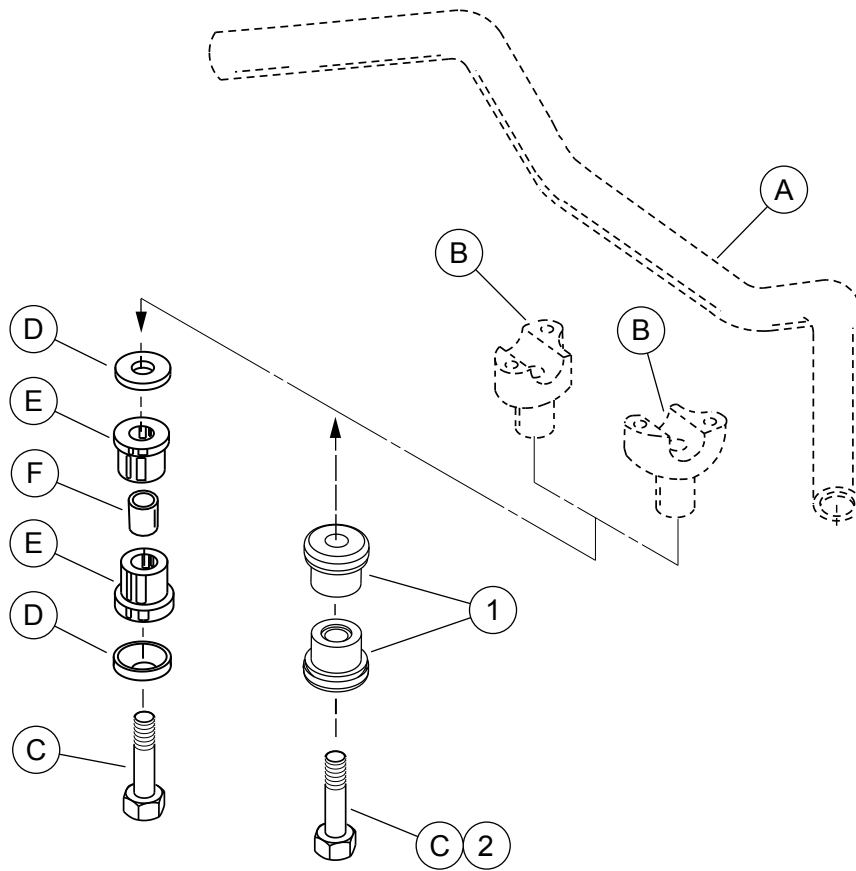

Figure 1. Service Parts: Handlebar Polyurethane Riser Bushing Kit
See Figure 1 and Table 1.
1. See Figure 1. **2013 and Earlier Touring Models:2014 and Later Touring Models:ALL Other Models:**
- b. Remove and **retain** the two cap screws (C) beneath the upper fork bracket that hold the existing lower handlebar risers (B) in place.
- c. Move the handlebar assembly (A) from the installed position. Carefully allow gauges and handlebar to rest on vehicle.
- d. Remove and discard cup washers (D), rubber bushings (E) and spacers (F).
- b. Remove and **discard** the two cap screws (C) beneath the upper fork bracket that hold the existing lower handlebar risers (B) in place.
- a. Remove and **retain** the two cap screws (C) beneath the upper fork bracket that hold the existing lower handlebar risers (B) in place.
- b. Move the handlebar assembly (A) from the installed position. Carefully allow gauges and handlebar to rest on vehicle.
2. Install the new polyurethane riser bushings (1) in place of the removed cup washers, bushings and spacers.
3. Align components as shown in Figure 1.
4. **2014 and Later Touring Models:** Secure components with two **new** hex head cap screws (2). Insert the cap screws, from the bottom, through the upper fork bracket, through the bushings (1) and into the handlebar risers. See the service manual for torque specification. **ALL Other Models:** Secure components with two hex head cap screws (C) removed in Step 1. Insert the cap screws, from the bottom, through the upper fork bracket, through the bushings (1) and into the handlebar risers. See the service manual for torque specification.